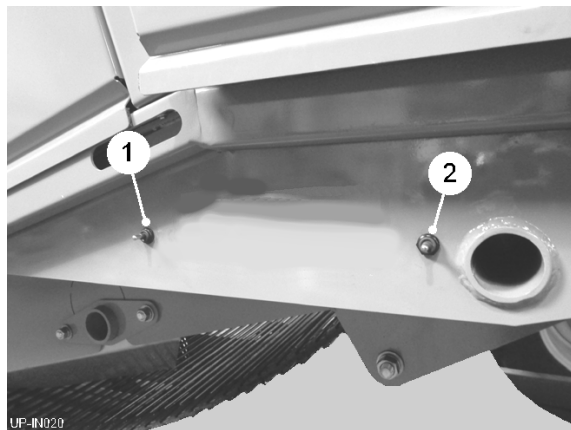

Fig 16
The LH side of the cross conveyor is folded vertically to reduce the width for transport. Raising / lowering of the conveyor is controlled by the two external switches (item 1 & 2, fig 16) on the LH side of the machine.